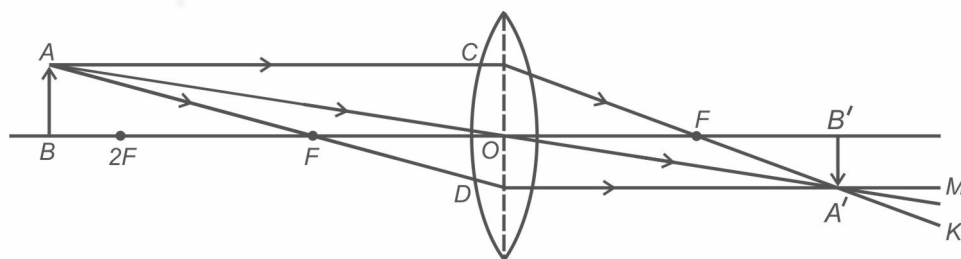

Fig. 6.11: Ray diagram for a convex lens when object is placed at $2F$.
8. Mount another pin on the optical bench using an upright so that it is on the right side of the lens. Place it at the estimated position of the image. Adjust it at the position of no parallax. The ray diagram for this case is shown in Fig. 6.11. This gives you the distance of the image, v . Record it in Observation Table 6.1.